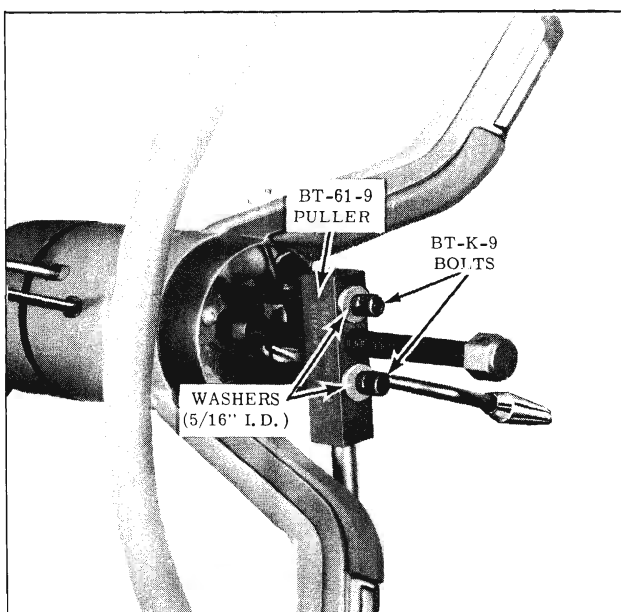

Fig. 4-74 Steering Wheel Removal
- Remove the steering wheel attaching nut and washer, then using a puller such as BT-61-9, remove the steering wheel from the steering shaft. (Fig. 4-74) Remove puller from steering wheel.